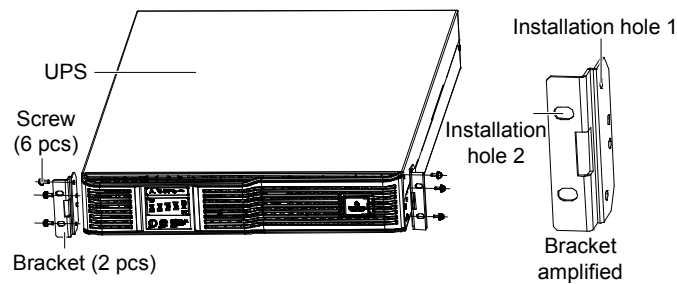

Figure 2-13 Installing the brackets
4. Place the UPS on the guide rails in the rack, and push it completely into the rack. Use four panel screws (M4 × 16) to fix the UPS in the rack through the installation hole 2 of the brackets, as shown in Figure 2-13.